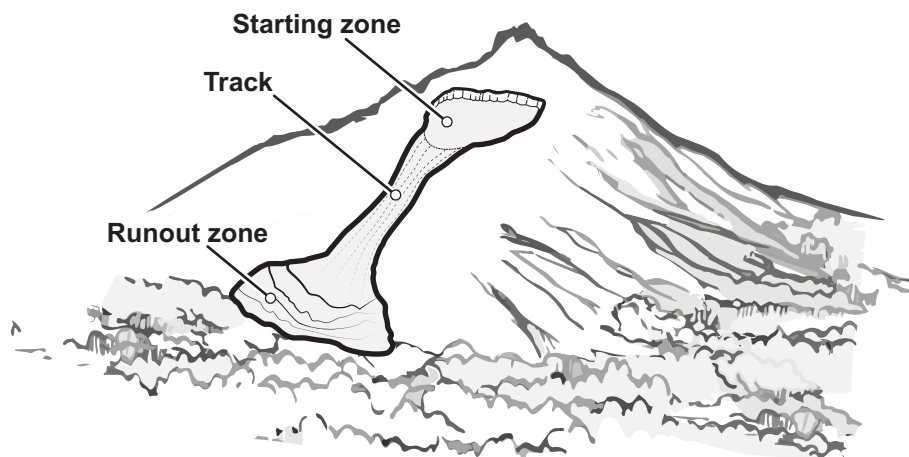

Figure 6-1. Avalanche Path.
- **Avalanche Path.** The avalanche path is the area in which an avalanche runs. An avalanche is generally divided into three parts—starting zone, track, and runout zone (see Figure 6-1):